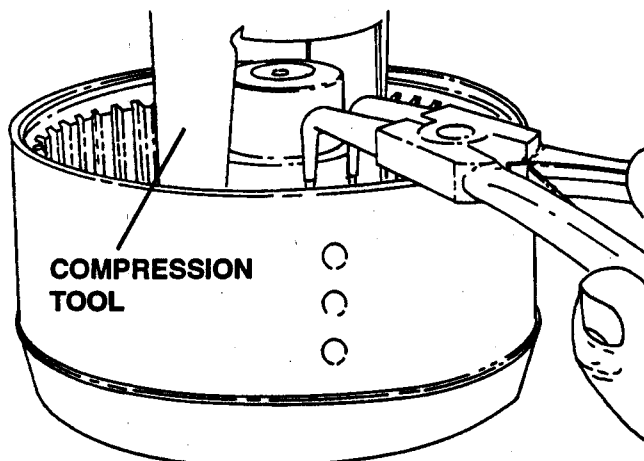

Figure 47.
2. Install oil baffle (111). Make sure that the oil baffle (111) seats on piston (113). Install piston spring (110). Install spring retaining plate (109).
3. Using a press, compress piston spring (110) and install circlip (108). See Figure 47. Also, use the press to fit taper roller bearing (103).